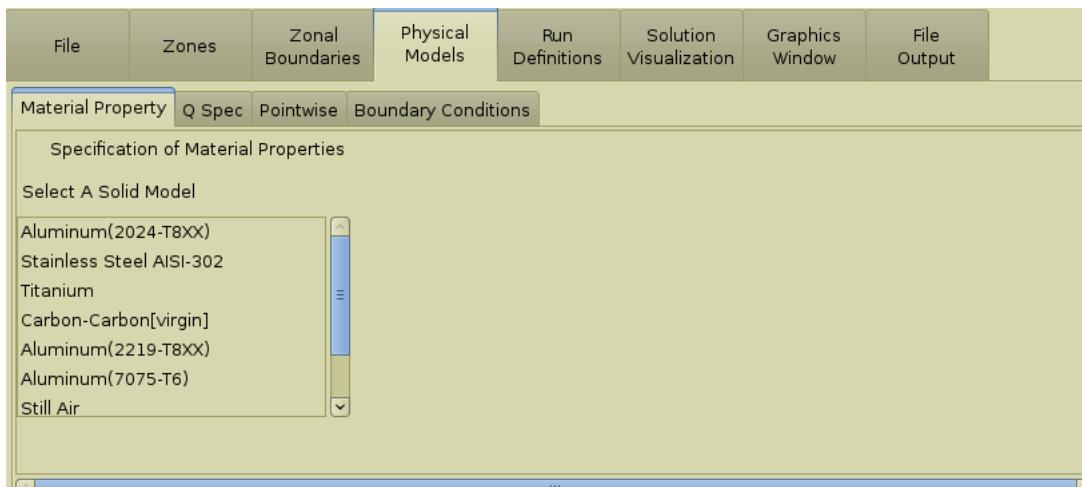

Figure 12.1: The solid thermodynamics (ST) physical model frame.
The default physical model in *GASpex* is the Navier-Stokes model for fluid flows (see Chap. 11 beginning on pg. 165). To create a solid thermodynamics (ST) physical model, the user should use the **New** physical model command as explained in Sec. 10.4 on pg. 149. An example solid thermodynamics physical model is shown in Fig. 12.1 on pg. 218.